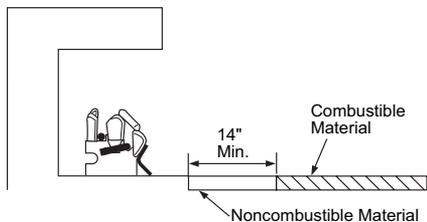

Figure 8 - Minimum Fireplace Clearances If Installed at Floor Level
- A. If installing appliance on the floor level, you must maintain the minimum distance of 14" to combustibles (see Figure 8, page 11).